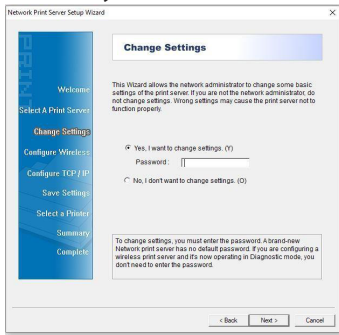

Figure 4
6. (Optional)At the **Change Settings** screen, apply a **Password** to the **Print Server's Web Interface** by selecting **Yes** then enter the desired **Password**. The **Web Interface** is not password protected by default. Select **Next**. (Figure 4)